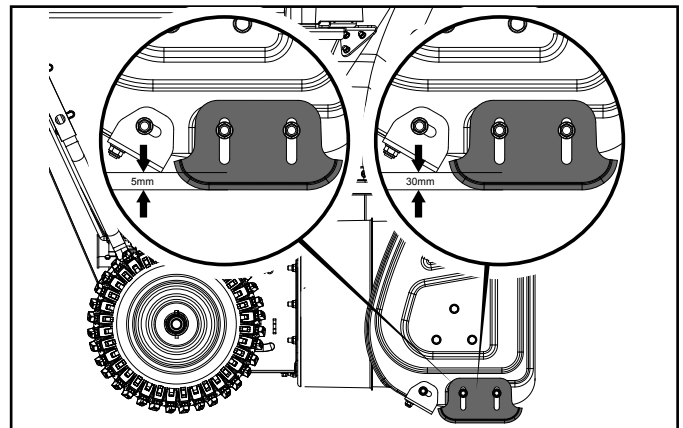

Figure 21
- On uneven ground, e.g. gravel paths, the shoes should be adjusted to about 1 1/8 in. (30 mm) (the distance from the auger to the ground) (Fig. 21).